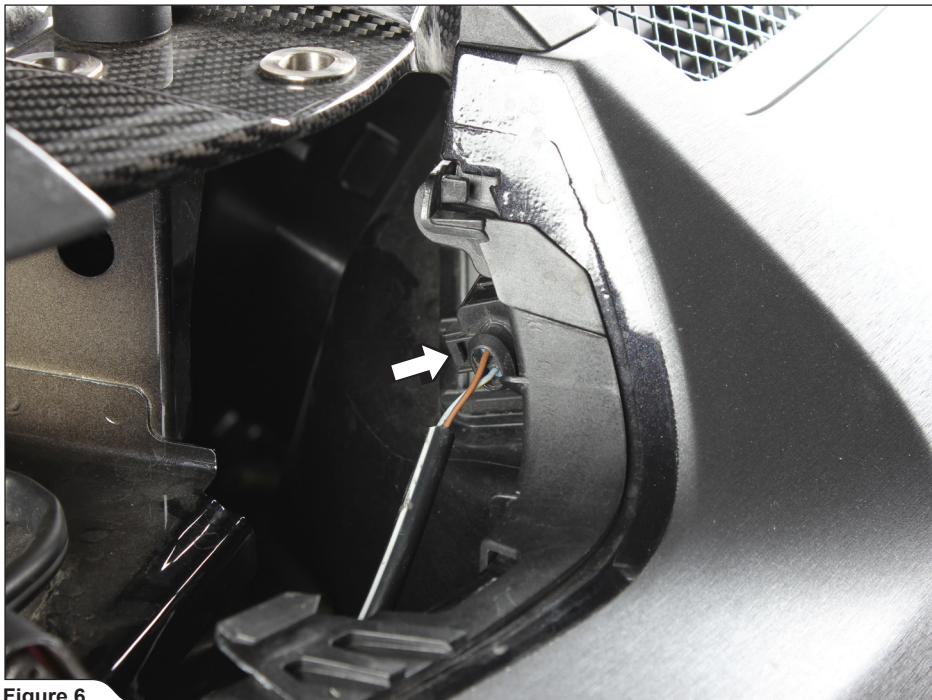

Figure 6
6. Disconnect the bumpers' electrical connector, and carefully remove the bumper off the vehicle (Figure 6).